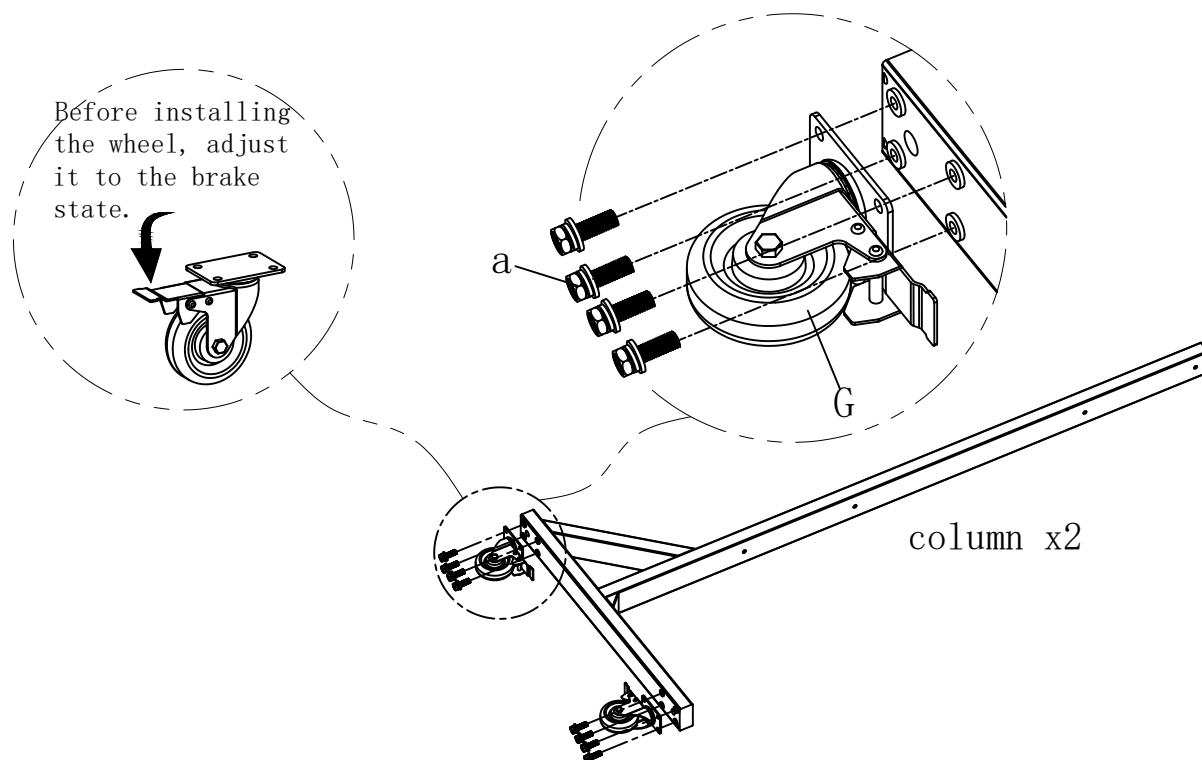

Figure 1
Step 1 :Adjust the wheels to the braking position and use screw (a) to lock the wheels onto the left and right pillars. (As shown in Figure 1).